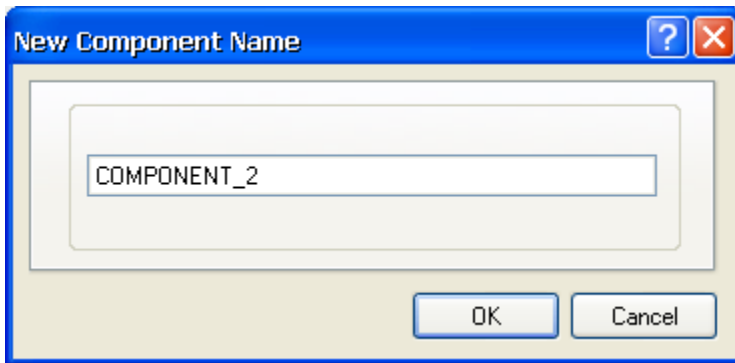

Figure 29. Enter the name of the new component.
1. Select **Tools » New Component** [shortcut: **T , C**] when in the Schematic Library Editor. The *New Component Name* dialog displays (Figure 29).